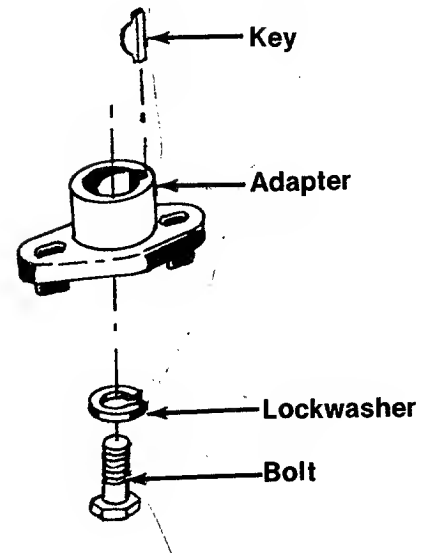

FIGURE 19
3. Be careful not to lose the key on the crankshaft. (See figure 19.)